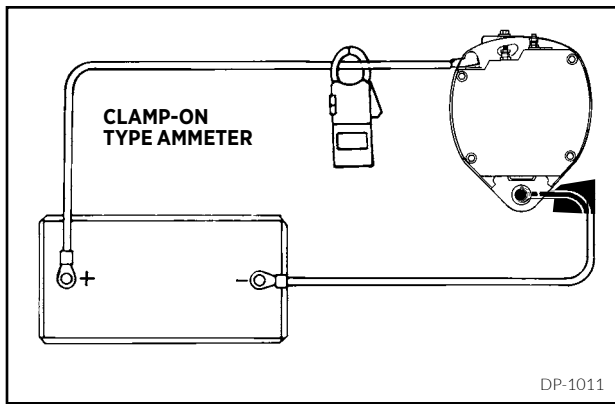

FIGURE 1-6. Clamp-On Type Ammeter
1-14. MEASURING VOLTAGE WITH THE VOLTMETER. The voltmeter is used to measure electrical pressure or voltage. The unit of measure is the volt. Voltmeters are always connected across (in parallel with) a part of the electrical circuit (See Figures 1-6 and 1-7). The voltmeter measures the difference in electrical potential or pressure between the points where the voltmeter is attached.
1-16. VOLTMETER USE. Figures 1-6 through 1-8 illustrate the proper use of the voltmeter and the types of readings that can be expected.
3. Figure 1-6 shows a clamp-on ammeter, the most common type of current measurement described in this manual. Zero out the meter before using and make sure the jaws are completely closed during use. Place the meter jaws around the cable, with the arrow points in the direction of current flow, to measure all the current.